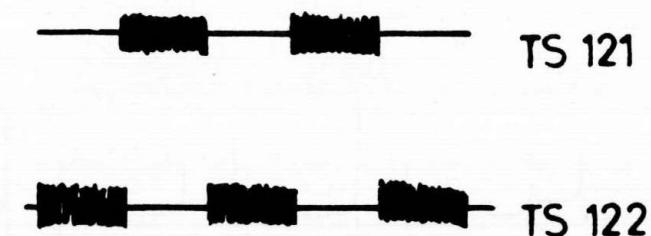

Fig. 43. Emitter signals of TS121 and TS122
- Check the signal on the emitters of TS121 and TS122 with an oscilloscope. During cut-off the signal will contain noise, and the signal on TS121 will be shifted  $180^\circ$  in phase with respect to the signal on TS122 (Fig. 43).